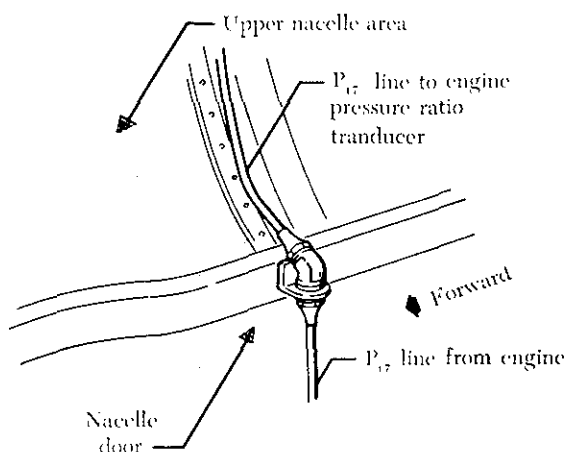

FIGURE 8-15. Turbine discharge pressure (P₁₇) pickup.
- (1) Adequately secure the aircraft either with wheel chocks or with tiedown provisions; attach ground wire or cable to aircraft.
- (2) Open the nacelle doors and support them with the struts. Verify that no external power is connected to the aircraft and that the electric power switch is off.
- (3) Remove the mount access plates from both sides of the nacelle structure.
- (4) Remove the engine air-conditioning duct access plate, and disconnect the duct from the engine.
- (5) Disconnect the turbine discharge pressure pickup line (figure 8-15).